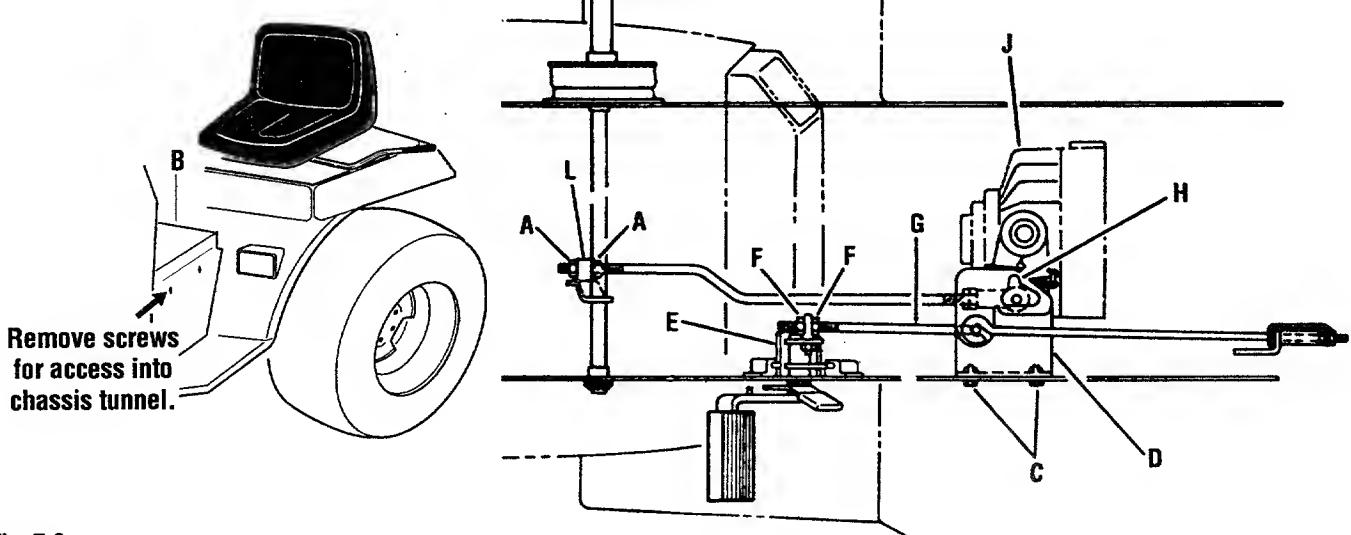

Fig. 7-9
- Loosen hex nuts (A, Fig. 7-9).
- Retighten nuts (A) against rod end (L).
- Remove tractor chassis tunnel (B, Fig. 7-9) by removing the four screws indicated.
- Loosen capscrews (C). Move support plate (D) forward if wheel rotates in a forward direction or move support plate toward the rear if it rotates in reverse.
- Tighten capscrews (C) when wheels no longer rotate.
- Stop engine and lock brake arm against stop (E).
- Loosen jam nuts (F) and turn rod (G) until pin enters slot (H) of neutral plate. Adjust until there is a gap of 1/32" between end of slot and pin.